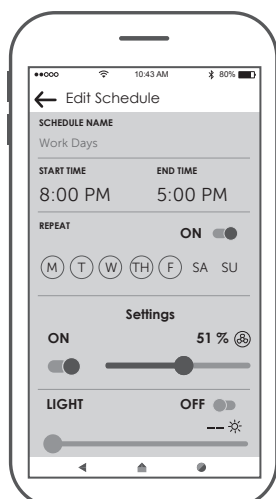

Figure 4
4. Select your WiFi router and enter the WiFi password to connect your fanSync WiFi receiver. It will take 1-2 minutes to connect. After your WiFi receiver is connected, you can now name your ceiling fan in the APP and customize your settings. (Figure 4)